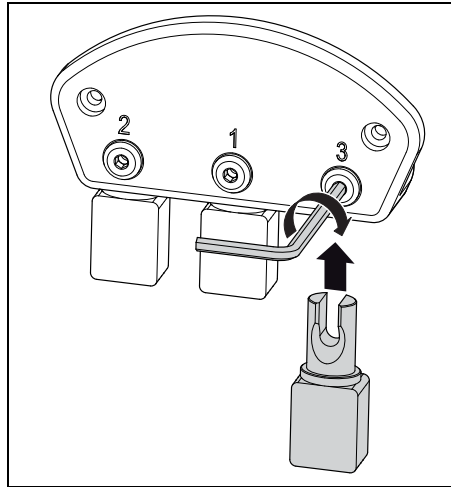

Fig. 1
- ▷ Load the adapter, if not already done (see figure 1).